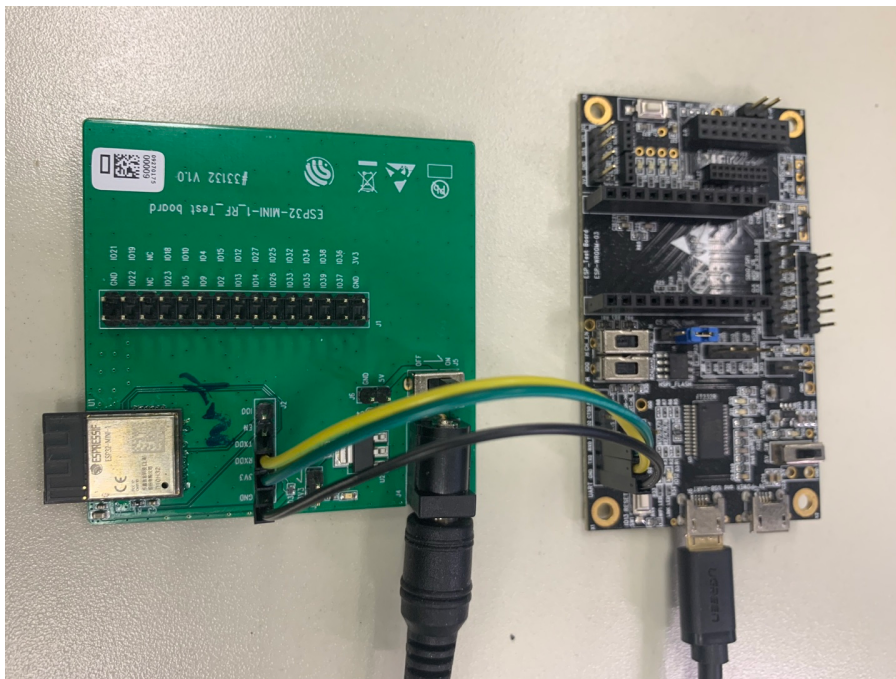

Figure 2: Hardware Connection
1. Solder the ESP32-S2-SOLO-2 module to the RF testing board as shown in Figure 2.